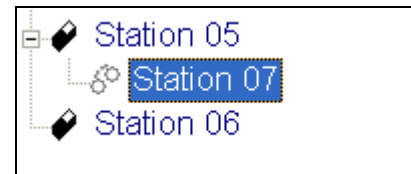

Figure 16.4.45D
- Release the left mouse button while the cursor on the screen is directly over the station that you want to assign the slave to (Figure 16.4.45D).